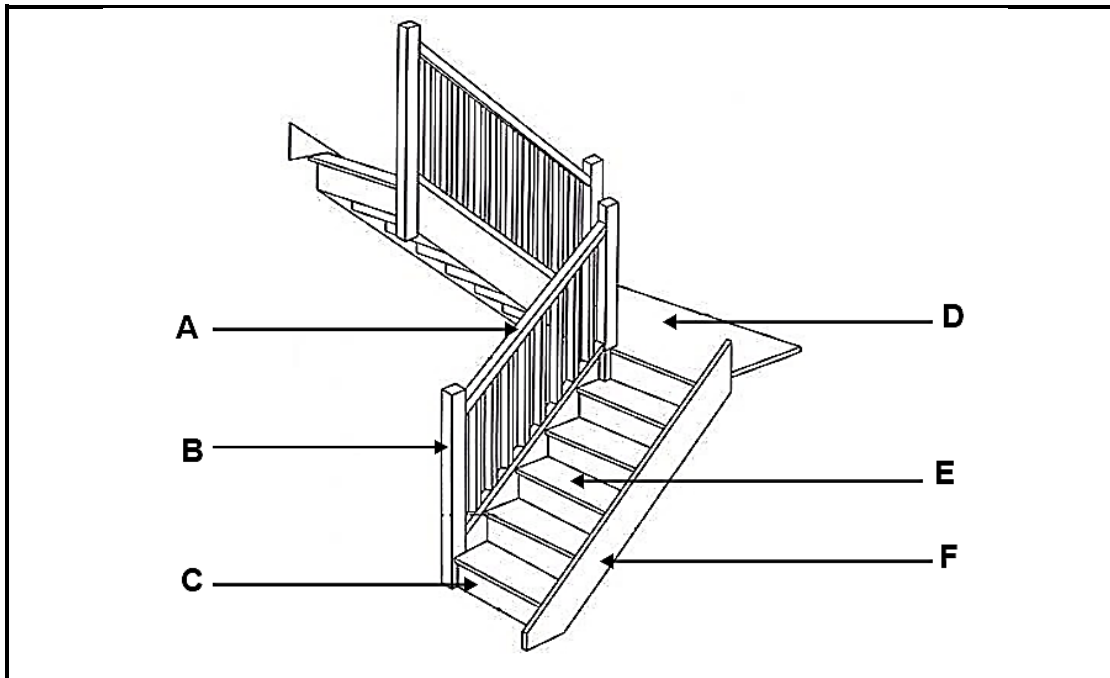

FIGURE 6.6
- 6.6 Answer the following questions regarding the staircase construction in FIGURE 6.6.